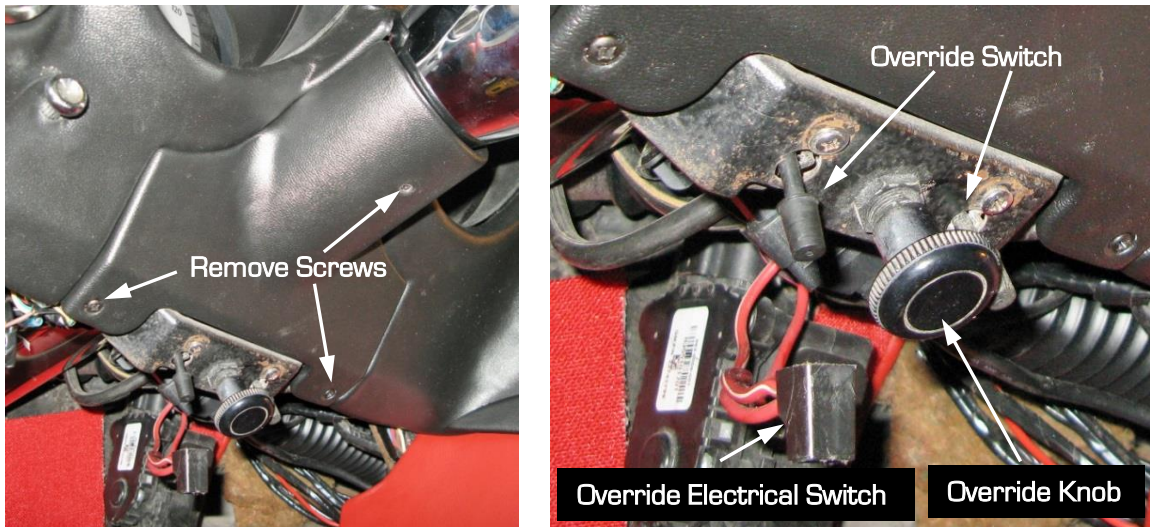

Figure 10 - Remove Lower Column Cover
19. To remove the steering column, start by removing the two screws from the lower column cover. **NOTE:** There may be three screws if you have an aftermarket steering column. You may find the vacuum override switches and/or the wiper override electrical switch (1968-72) attached to the cover (Figure 10). Remove the lower left hand side dash vent duct.